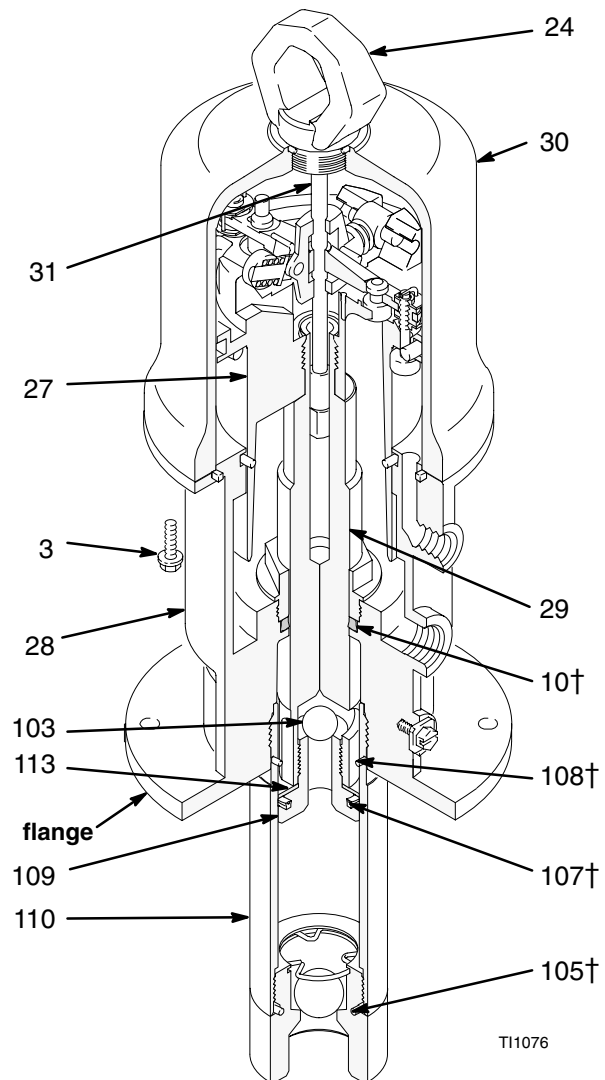

Fig. 3
3. Disconnect the hoses, remove the pump from its mounting, and clamp the air motor base (28) in a vise horizontally by closing the vice jaws on the flange.
4. Use a strap wrench on the displacement pump cylinder (110) to screw it out of the air motor base (28). See Fig. 3.
5. Remove the piston/valve seat (109) from the rod (29) with wrenches or with the vice and a wrench.
6. Remove the piston ball (103), u-cup packing (107†), and piston washer (113).
7. Remove the air motor base from the vise, and place the piston rod (29) flats in the vice with the air motor up.
8. Loosen the lift ring (24). Pull up the lift ring, grip the trip rod (31) with the padded pliers, and screw the lift ring off of the rod.
- Install the u-cup packing (107†) with the lips up, and place the piston washer (113) on the piston/valve seat (109). Make sure the lips of the u-cup packing face up. See Fig. 3.
- Place the piston ball (103) in the piston rod (29).
- Clean the threads of the piston/valve seat, Apply Loctite® to the threads, (109), and thread the assembly from Step 16 onto the piston rod (29).
- Clamp the flats of the piston/valve seat (109) in a vice, and torque the piston rod (29) to the piston valve seat to 40 to 60 ft-lb (54 to 81 N.m).
- Clamp the air motor base (28) in a vise horizontally by closing the vice jaws on the flange
- Use a strap wrench to screw the displacement pump cylinder (110) to the air motor base (28), and torque to 95 to 105 ft-lb (129 to 142 N.m).
- Grip the trip rod (31) with padded pliers, screw the lift ring (24) onto the trip rod, push the lift ring down, and screw it into the top of the cylinder.